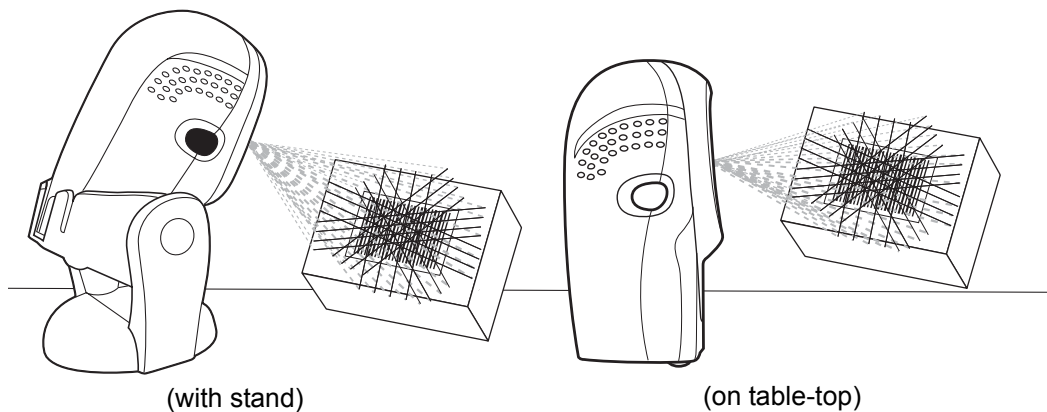

Figure 2-5. Hands-Free Mode
3. To scan a bar code, present the bar code and ensure the scan lines cross every bar and space of the symbol. The scan pattern becomes steady when the scanner detects the bar code. See Figure 2-5 on page 2-5 for scanning in hands-free mode and Figure 2-6 on page 2-5 for scanning in hand-held mode.